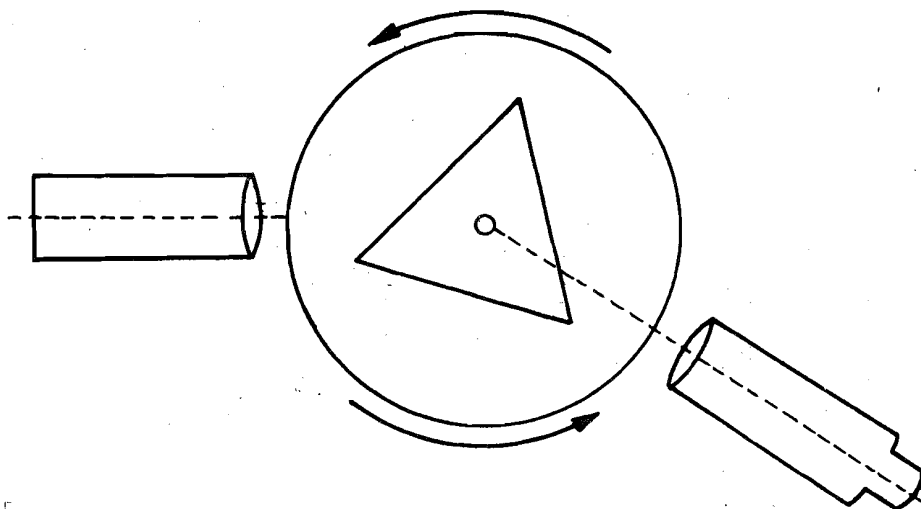

Fig.5.5: Locating the reflected image
- Fix the main screw and using the tangent screw make the vertical wire of the crosswire to coincide with the image of the slit exactly, as shown in Fig.5.5.